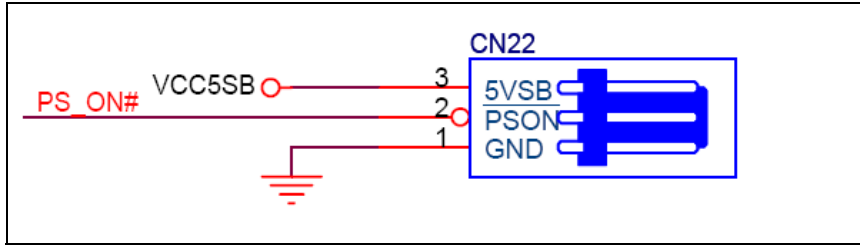

Figure 3-17: Suspend Power Input Connector Location
- CN Location:** See Figure 3-17